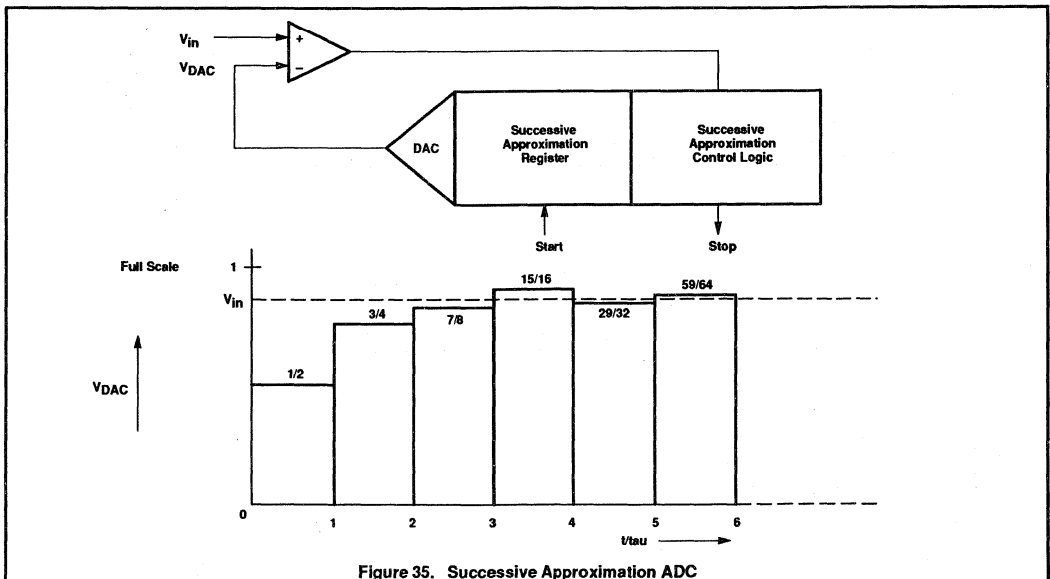

Figure 35. Successive Approximation ADC
**Analog-to-Digital Conversion:** Figure 35 shows the elements of a successive approximation (SA) ADC. The ADC contains a DAC which converts the contents of a successive approximation register to a voltage (VDAC) which is compared to the analog input voltage ( $V_{in}$ ). The output of the comparator is fed to the successive approximation control logic which controls the successive approximation register. A conversion is initiated by setting ADCS in the ADCON register. ADCS can be set by software only or by either hardware or software.